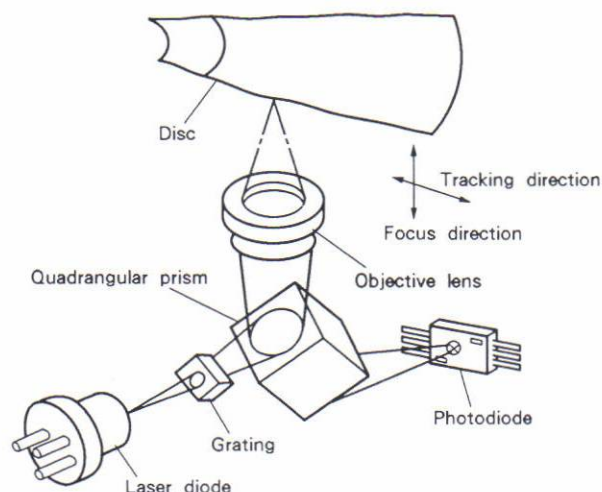

Fig. 9-1 Optical path and parts
Fig. 9-1 shows the configuration of this pickup's optical parts.
(3) Simple optical path made possible by the newly-developed quadrangular prism (Fig. 9-1)